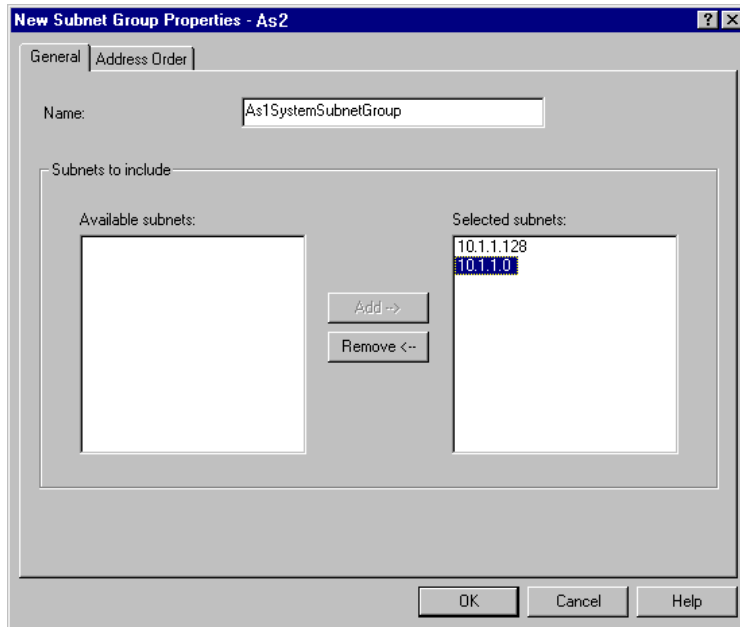

Figure 95. DHCP Configuration - Selection of Subnets for New Subnet Group
4. Highlight the first address group, under the *Available subnets*, and click **Add**. Repeat this step for the second group. The resulting display is shown in Figure 95 on page 187.